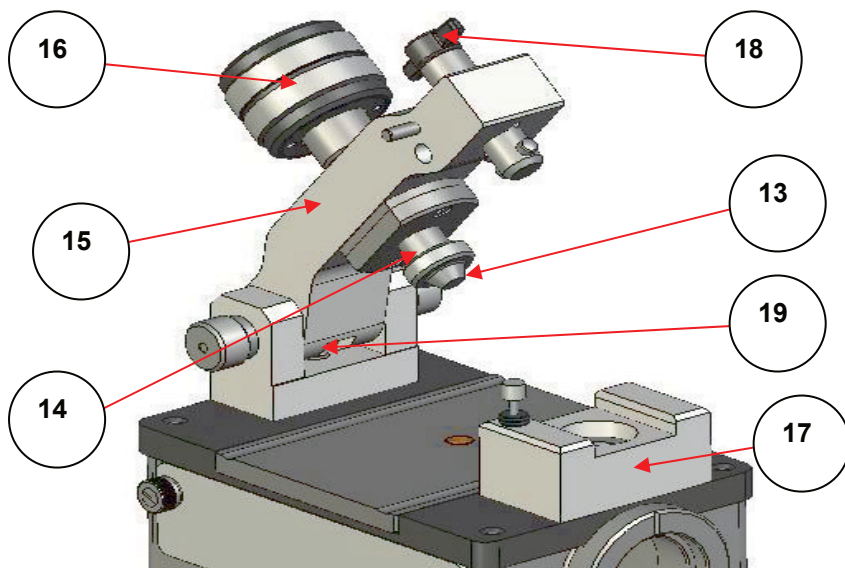

Figure 12. Silver Gate™ Bridge and Clamp Anvil Assembly (Open)
Tip: When placing an anvil (**13**) into position on the end of the clamp head pressure pin (**14**) on the bridge, push the hollow depression of the anvil on with a rotational movement to ensure it makes a compression fit with the retaining O-ring. Ensure the anvil pressing face is level and parallel to the bridge (**15**). (See Figure 12.)
When using the Silver Gate™ ATR Accessory, a liquid or solid sample is placed onto the crystal area of one of the flat or recessed ATR crystal top plate assemblies to obtain an ATR spectrum for the sample. Particularly for solid samples, the best ATR spectra are produced when the sample is in close contact with the ATR crystal, so it is recommended to use the bridge and clamp anvil assembly (15) of the Silver Gate™ ATR Accessory on the optical unit. In this way a load can be applied to the solid sample from an appropriate compression head anvil (13) fitted to the clamp head pressure pin (14), (see Figure 12), to force the sample into good and close contact with the ZnSe or Ge ATR crystal.
At the hinge point of the Silver Gate™ bridge and clamp anvil assembly (15) there is a spring ball bearing stay up catch device (19) that prevents an open bridge from accidentally falling back down to its closed position. The bridge is lifted open to pass beyond the point where the ball bearing spring catch engages. When sampling **liquids** using either the flat or recessed ATR crystal top plate assembly, there is no need to use the bridge and clamping assembly (15) with any anvil compression heads (13), so the bridge can stay open if desired (see Figure 12.)